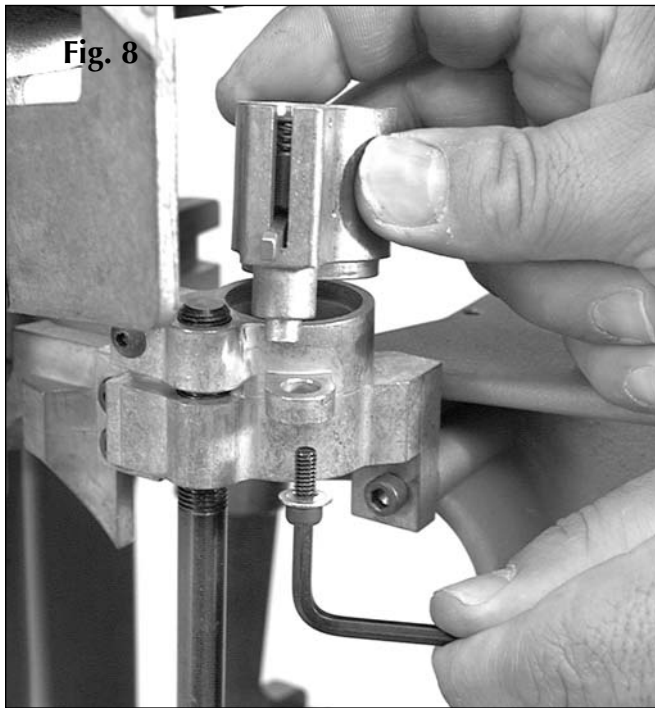

Fig. 8
2. Use a 9/64" Allen wrench to remove the screw and washer on the casefeed sleeve assembly. Remove the 12 gauge casefeed sleeve off the casefeed body. **Fig. 8**